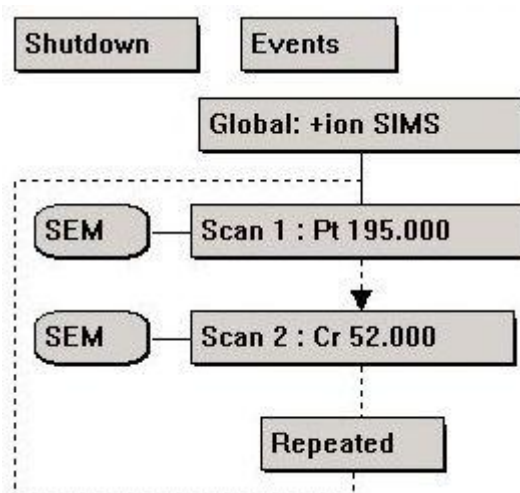

Fig.6: Listing of monitored elements, e.g. platinum and chromium.
3.4.4.2 Each element you like to monitor is represented by a SEM---Scan x : line (Fig.6). The list should preferentially include all metallic or semiconductor elements present in the materials-to-be-etched, including those present in the material on which the etch should stop.